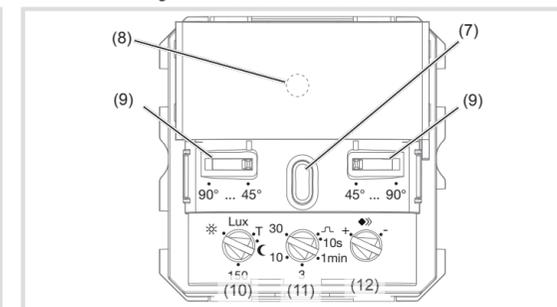
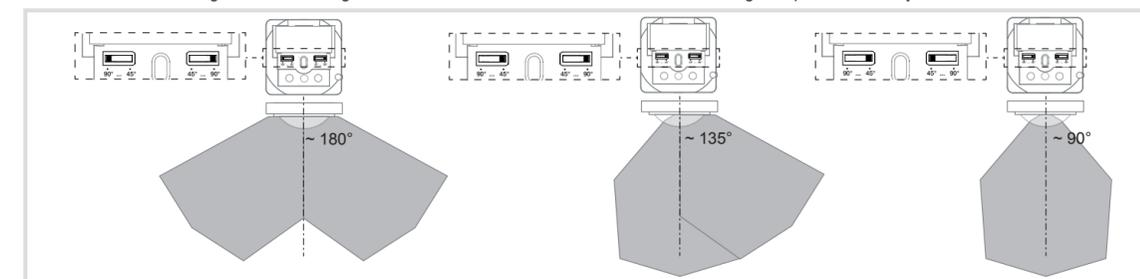

Figure 9: Operation and adjustment elements
Figure 10: Setting the detection angle
**Overview of operation and adjustment elements (figure 9)**
- (7) Button
- (8) Status LED
- (9) Detection angle adjuster
- (10) Response brightness potentiometer
- (11) Delay time potentiometer
- (12) Sensitivity potentiometer
The detection angle can be restricted for the right side and for the left side via each adjuster (figure 9, 9) between 45° ... 90° for each adjuster. This can be carried out on the device. Thus the detection angle can be between 90° and 180° (Fig. 10).
- Set the response brightness potentiometer (Fig. 9, 10) to Test (T).